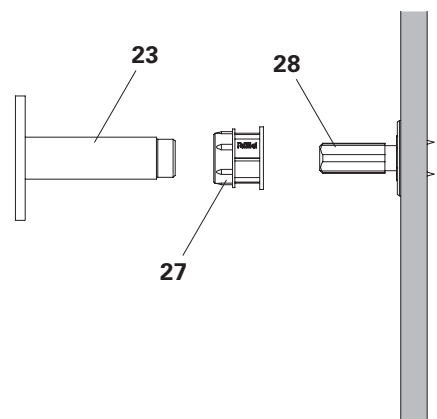

Fig. B1.02
2. Screw the Anchor Sleeve M24 (**23**) to the Anchor Posit. Stud M24 ga (**28**) with Cone PP Ø31/26 mm C=25 mm (**27**). (Fig. B1.02)